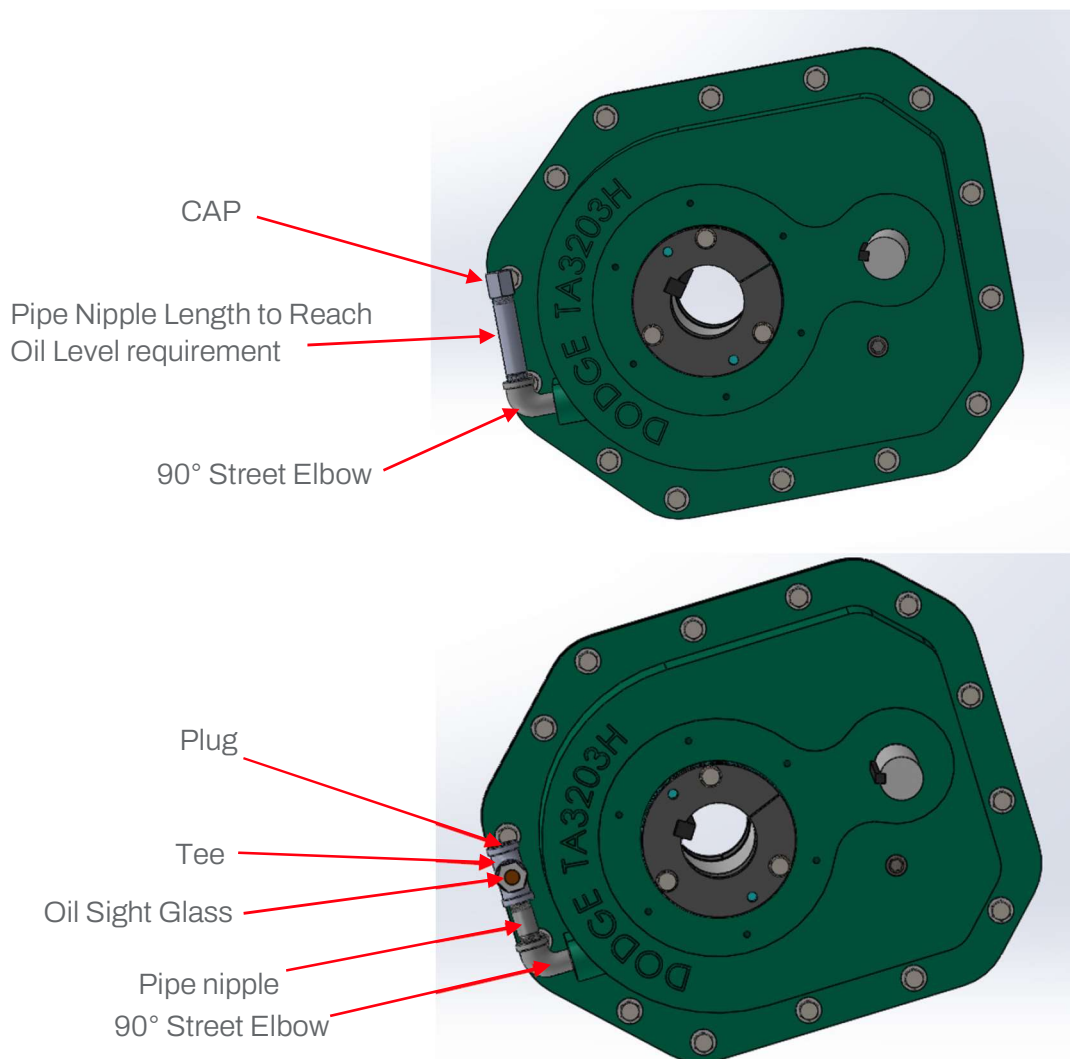

Figure 2. Ways to mount pipe additions to the gearbox
3. It won't give you specific parts to use because different applications may require different parts to clear obstacles (on motor mounts, guards, equipment, etc.). Common parts used to aid in getting up to the oil level may include oil sight glasses and tubes, elbows, standpipes or pipe nipples, and caps. See **Figures 2 and 3** for examples of these. In **Table 1**, the threads of the oil holes are listed for each reducer.